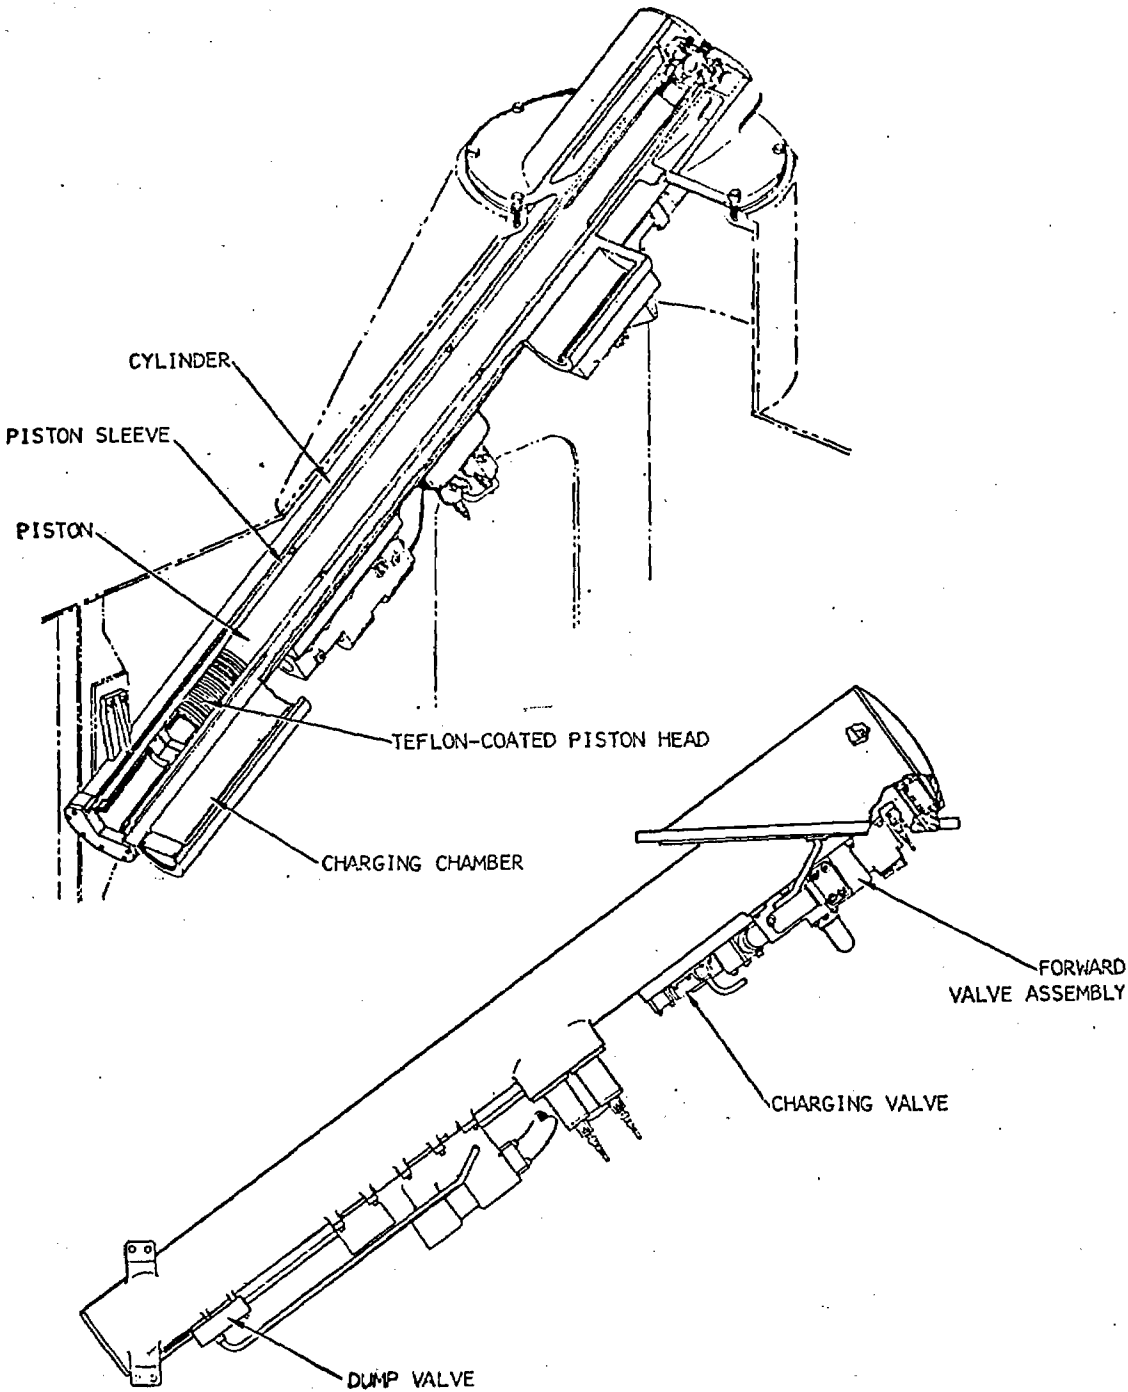

Figure 7-9.—Dud Jettison Ejector.
Chapter 4 described and illustrated methods of jettisoning dud missiles in Tartar, Terrier, and Talos systems. In the Terrier/Asroc system, Mk 10 Mods 7 and 8, the same jettisoning equipment is used for all types of missiles loaded. The three main components of the jettison unit are the A-side ejector, the B-side ejector, and the control panel. A manually operated shut-off valve on the panel shuts off the 4500-PSI air supply to the jettison controls. The positioner air supply valve admits (or shuts off) air at 100 PSI from the ship's air supply to the A and B positioner control valves. The 4500-PSI air supply is used to charge the air chamber (fig. 7-9) and to operate the firing valve. The air pressure gage is usually set at 3500 PSI, and the
**OPERATING THE DUD-JETTISONING EQUIPMENT.**—Figure 7-9 shows the location of some of the valves and other components on the
When the operator stationed at the dud jettison panel is signalled that everything is ready at the EP-2 panel, he executes the steps listed on the instruction plate on his panel. First, he turns the Positioner Air Supply Valve to **OPEN**, which directs 100 PSI air to the Positioner Control Valves. Since only Position I is to be used, the Positioner Control Valve (in the upper right-hand corner of the panel) is turned to **POSITION I**. The dump valves (fig. 7-9) then port 100 PSI air pressure to the rear of the ejector sleeve which causes the sleeve to move forward about 24 inches. Meanwhile, 4500 PSI air is going to the Charge and Fire Control valve, which you set at **CHARGE**. Air is ported to the firing safety valve (not shown), the charging valve (fig. 7-9), and both ends of the firing valve which is in the forward assembly.